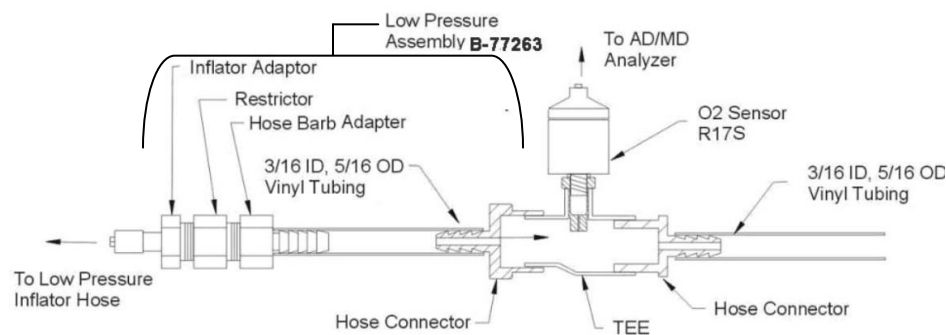

Figure 2-10: Low Pressure Gas Sampling
- From the low pressure inflator hose using the sample adapter as shown in Figure 2-10.
**INFLATOR HOSE SAMPLING.** Connect the inflator hose adapter supplied with the unit to the tee adapter as shown in Figure 2.10. Open the gas bottle valve and allow gas to flow for approximately 30 seconds. When a stable reading is observed close the cylinder valve. Allow reading to settle for a few seconds. This is the oxygen value of the sample gas.